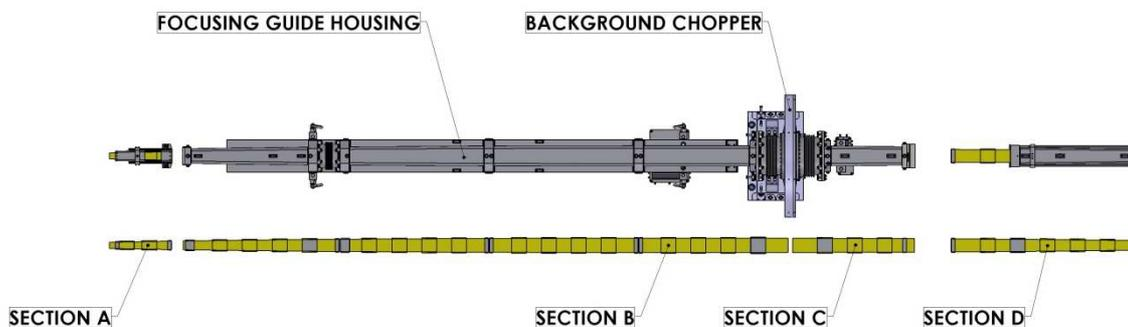

Figure 6: Focusing Guide with housing and the background chopper located between Sections B and C.
In practice it is made of four distinct sections (Figure 6), allowing for the relevant components to be inserted at various locations along the beam path. These components are the EMU tertiary shutter (III), the background chopper (IV), and the focusing guide window of the scattering tank.